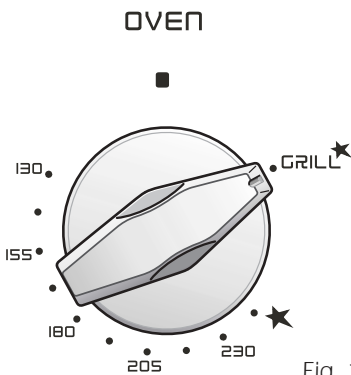

Fig. 19
2) Lightly press and turn the thermostat knob clockwise to the **GRILL**  position (fig. 19).